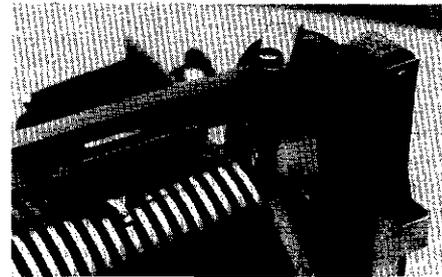

Fig 1—When W4LHH's roller inductor is set for maximum inductance, the tongue on the traveling contact switches in more tank capacitance. See text.
Fig 1—Doug Stivison's QRP Carry-All is just the thing for toting a compact, battery-powered QRP station (below) into the sticks. Those ham-radio-related patches aren't just for show: Especially on air trips, their "Amateur Radio Spoken Here" message lets other traveling hams know that another of their own is near.
□ Lew Howard, W4LHH, Stone Mountain, Georgia, submitted Fig 1 among